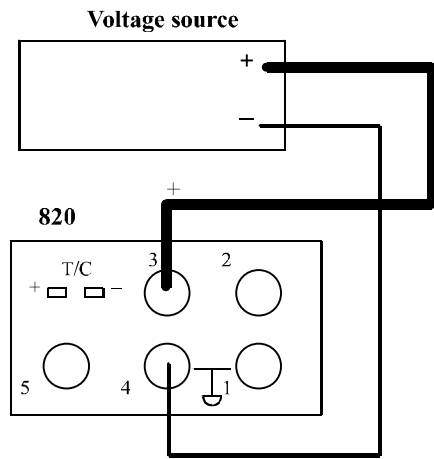

FIGURE 8
3. Hi Calibration: Connect a Voltage Source (Set to 100.00mV) to terminals 3 and 4 of the 820 (See figure 8). Press *STORE*; make sure you hear the beep, then press *SOURCE/READ*.
3. Hi Calibration: Connect a Voltage Source (Set to 10.00V) to terminals 3 and 4 of the 820 (See figure 8). Press *STORE*; make sure you hear the beep, then press *SOURCE/READ*.